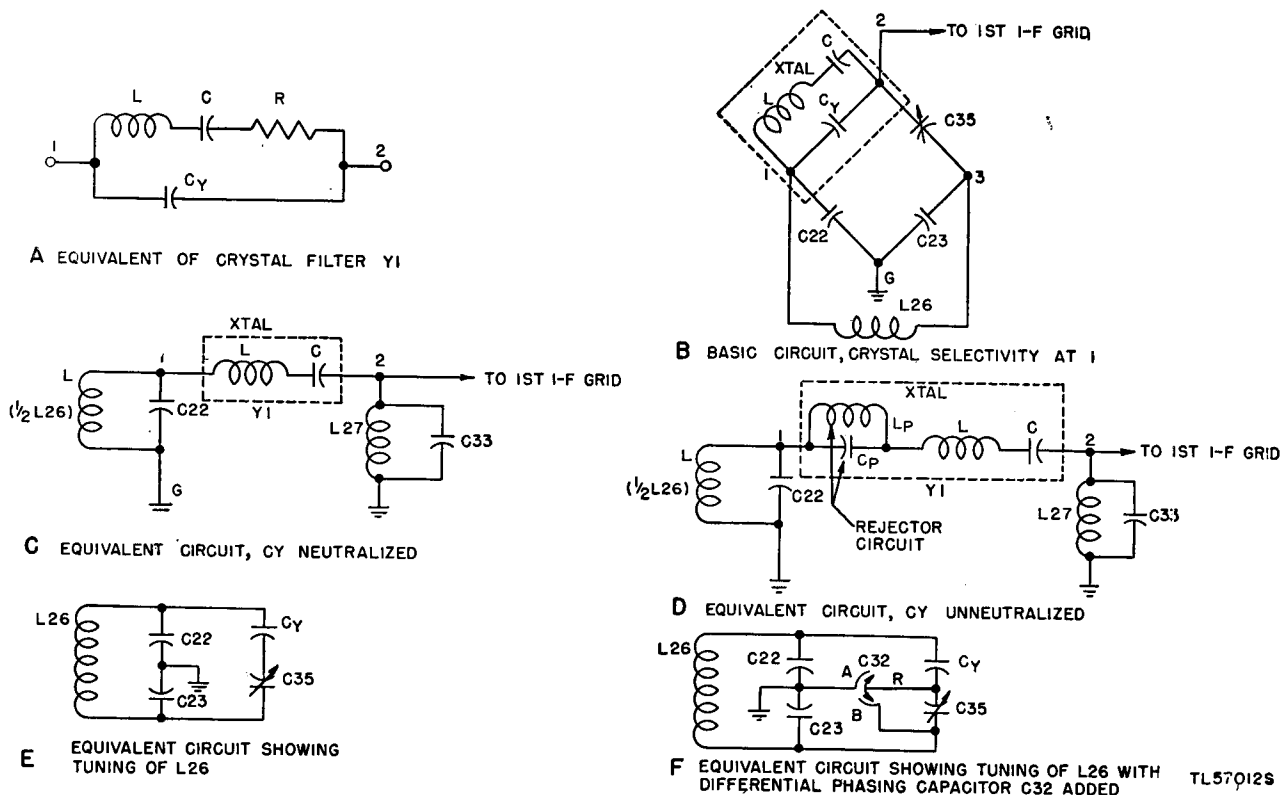

Figure 28. Radio Receiver BC-779-B, functional and equivalent diagrams of crystal filter circuit.
(4) Refer to appendix III for circuit details of Improvement Kit MC-531.
61. Crystal Filter (fig. 28)
a. EQUIVALENT CRYSTAL CIRCUIT. The equivalent electrical circuit of a crystal is shown in "A," figure 28. The circuit, and hence the crystal, are resonant at two frequencies: The frequency at which the reactance of L is equal to the reactance of C (series resonance), and the frequency at which the effective reactance of L-C (in series) is *inductive* and *equal* to the capacitive reactance of C_Y (parallel resonance). At the series-resonant frequency the crystal acts as a low-impedance connection between 1 and 2. At the parallel-resonant frequency the crystal acts as a high impedance between 1 and 2.
b. BASIC FILTER CIRCUIT ("B," fig. 28). Capacitors C22 and C23 (100 mmF each) are connected in series across the secondary of i-f input transformer L26, and their junction is grounded to provide a midpoint connection in the resonant circuit L26-C22-C23. Consequently, the capacitor voltages are always of equal amplitude but 180° out of phase. Phasing capacitor C35 (1.5 to 5 mmF) is connected between 3 and 2, and the crystal is connected between 1 and 2.
c. NEUTRALIZATION OF C_Y . Capacitors C22, C23, C35, and C_Y (the capacity between the crystal holder plates) form a capacity bridge; the input is applied to 1 and 3, the output is taken from 2 and G. When capacitor C35 is adjusted so that its capacitance is equal to that of C_Y , the voltage coupled from 3 through C35 to 2 is equal and opposite to the voltage coupled from 1 through C_Y to 2. Under this condition C_Y is neutralized and the crystal acts as a series-resonant circuit only ("C," fig. 28). Since the crystal is resonant at the intermediate frequency, there is (in effect) a direct connection between 1 and 2. As indicated in "C," figure 28, only the voltage across C22 (one-half the secondary voltage) is applied through the crystal to the grid circuit of the first i-f stage.
tance of L - C and the capacitive reactance of C_Y . For simplicity the parallel-resonant circuit is denoted as rejector circuit $L_P C_P$ in "D," figure 28. L_P and C_P denote the effective inductance and capacitance at the parallel-resonant frequency. L and C indicate the effective inductance and capacitance of the crystal at the series-resonant frequency, in this case the 465-kc i.f. In other words, unless C_Y is neutralized, the crystal acts simultaneously as a parallel- and series-resonant circuit. The parallel-resonant circuit $L_P C_P$ has no effect on the 465-kc i.f. but presents a high impedance to, and therefore rejects, the frequency to which $L_P C_P$ is resonant. L and C present extremely low impedance to the 465-kc i-f signal voltage and high impedance to voltages at different frequencies. *With underneutralization the resonant frequency of $L_P C_P$ is higher than 465 kc.*
f. CAPACITOR C_{32} . Capacitor C_{35} , in series with capacitance C_Y , is across L_{26} and affects its tuning ("E," fig. 28). To avoid the detuning effect and to enable shifting the rejection frequency to either side of the i.f., differential PHASING capacitor C_{32} ("F," fig. 28) is used in the radio receiver. Stator sections A and B are so arranged that, as rotor R is turned out of one stator into the other, the capacitance of the first *decreases* by the same amount that the capacitance of the second *increases*. Thus, whether the rotor is entirely engaged in stator A, is at a midpoint, or is entirely in stator B, the effective capacitance across A-B, and therefore across L_{26} , remains constant. Assume that C_{32} , the PHASING capacitor, is set at the arrow position of the PHASING control on the front panel and
(2) *CRYSTAL SELECTIVITY switch at 1.* When CRYSTAL SELECTIVITY switch SW7 is placed at 1, the short is removed from the crystal. If the secondary of L26 and the parallel-resonant grid circuit, L27-C33, are tuned to 465 kc, each is the equivalent of a high resistance in series with the equivalent series-resonant circuit of the crystal ("C," fig. 28). Consequently, the *Q* and therefore the selectivity of the series-resonant (crystal) filter circuit is reduced, and the bandwidth is several kilocycles wider than that of the crystal alone.